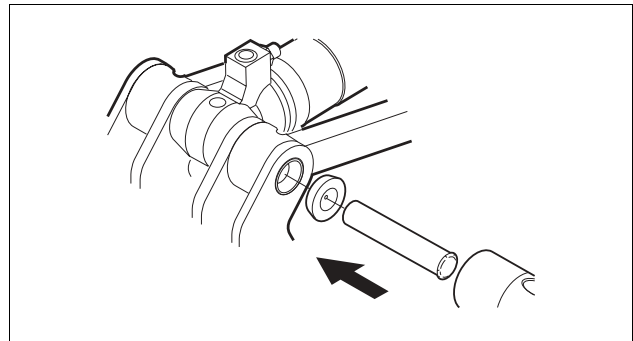

Fig. 48 Strike the pin-joint out
3. Strike out the pin-joint. *See Fig. 48.*